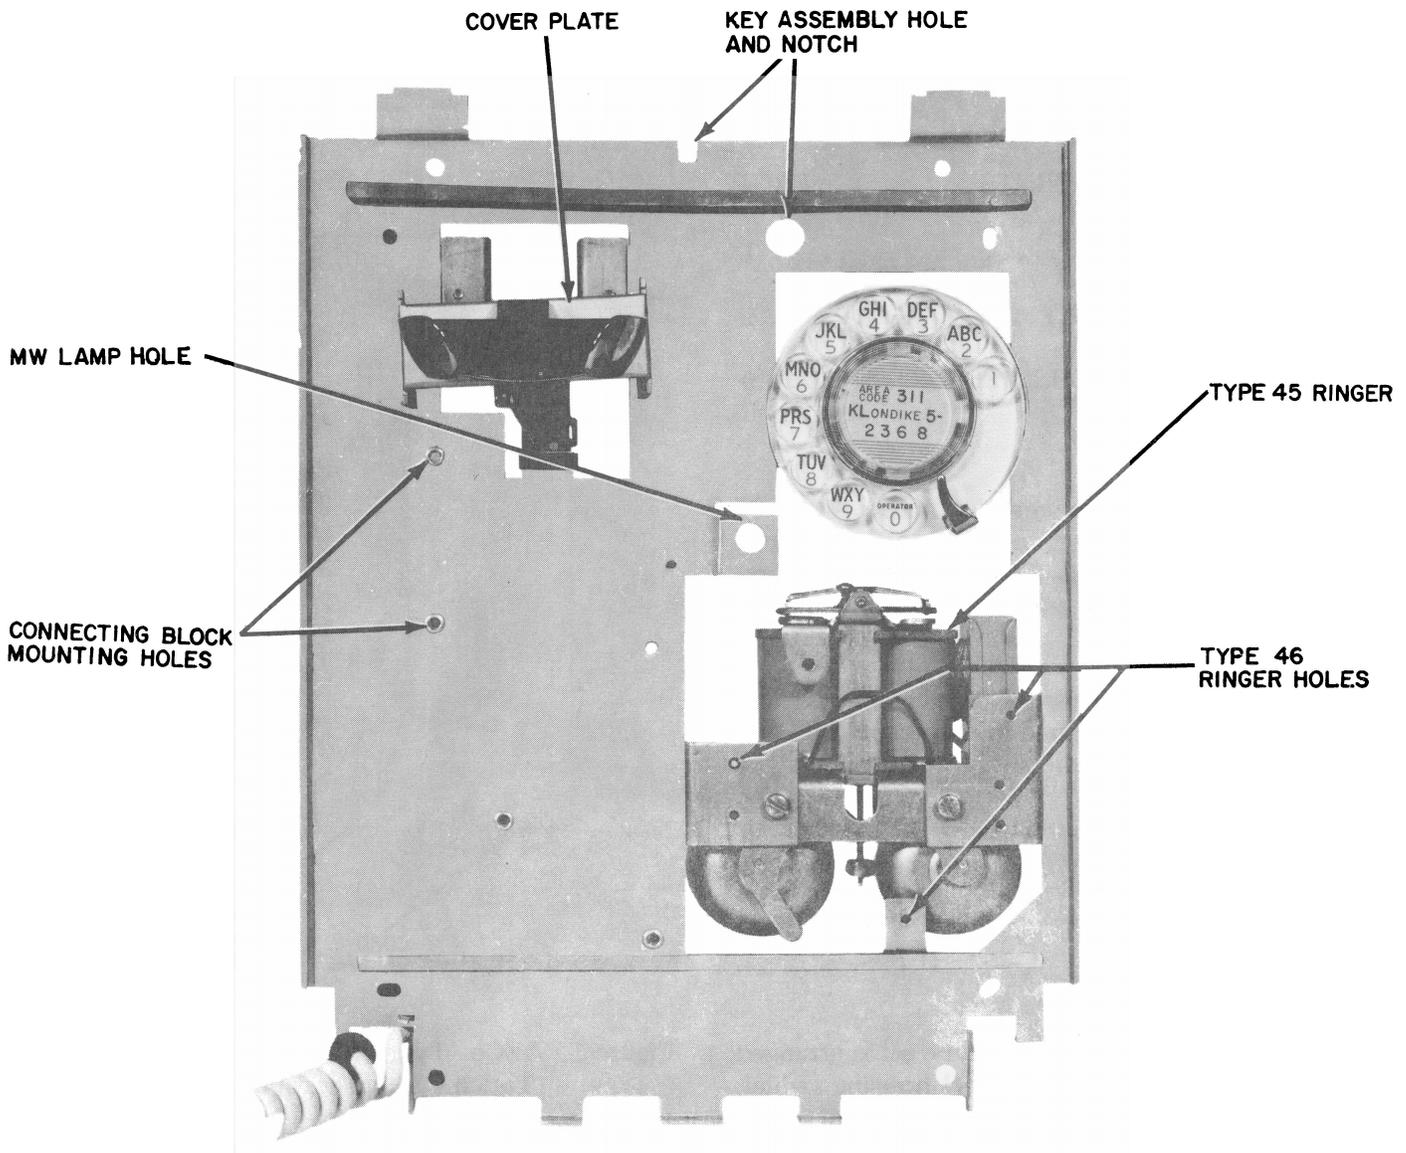

Figure 2. Component Mounting Plate, Front View.
2.02 The faceplate provides external covering for a steel mounting plate which fastens to the housing and supports the hookswitch, calling device and transmission network. This component mounting plate (see Figure 2) is a steel stamping with two horizontal welded reinforcements, arranged to mount over the front of the steel housing, to which it is fastened with four machine screws furnished with the housing. Tab extensions at the top of the plate engage slits in the aluminum faceplate, and a turned-out bracket at the bottom is threaded to accept a binding head screw which secures the bottom of the faceplate. The latter bracket, in conjunction with two others along the
2.05 In the lower right corner of the component mounting plate, a cutaway area intersected by several mounting tabs provides for mounting a ringer behind the plate. On NB-series sets, and NC-series sets manufactured prior to the offering of the Touch Calling option, two horizontal tabs are arranged with clearance holes to mount a Type 45 ringer. NC-series instruments of later manufacture use a plate with a third, vertical tab added, as shown in Figure 2. In this case the tabs are drilled and tapped with additional holes to permit mounting of a Type 46 straight line ringer from the rear, as shown in Figure 10. The coil leads of early Type 46 ringers will require extension or replacement to permit connection to the network when mounted, as the standard leads are too short to reach the terminals.